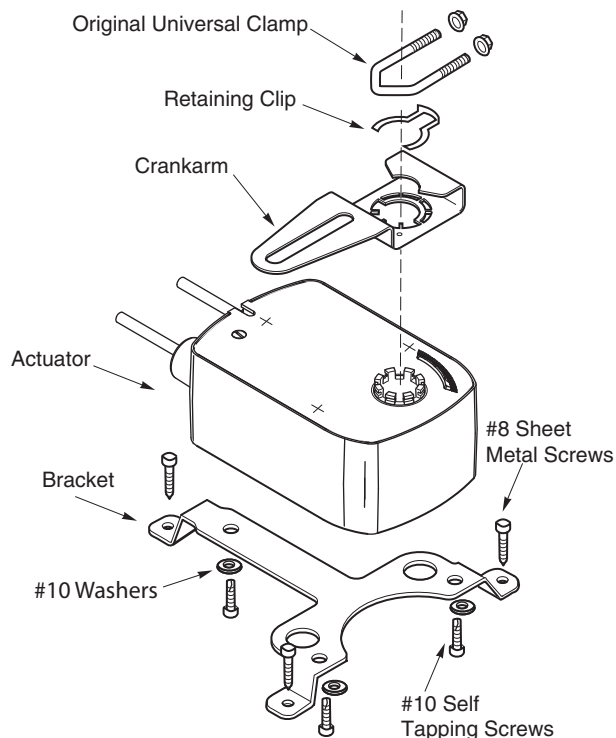

Figure-5 Mounting AM-712 Crankarm.
1. Locate the pre-drilled mounting holes on the actuator label that are covered by a white "+" sign. See Figure-5.
6. Secure the crankarm in place using the retaining clip provided. See Figure-5. Place the retaining clip inside the crankarm, making sure to align the retaining clip with the grooves on the actuator mounting. Push the retaining clip with finger pressure until it clicks into place.